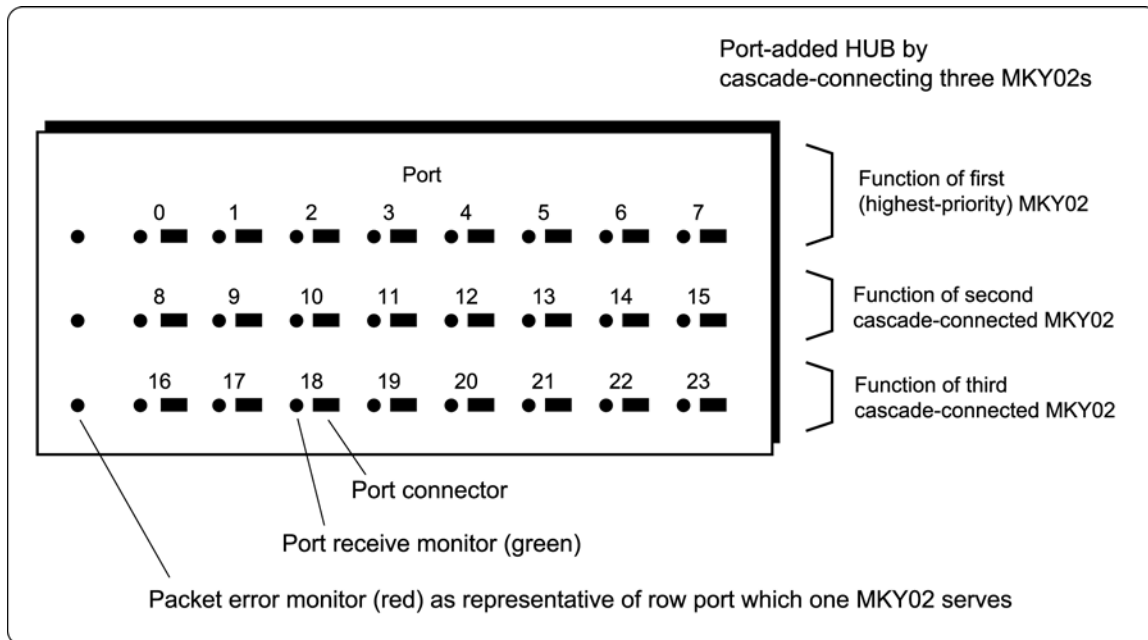

Fig. 4.9 Monitor Placement Example for Port-added HUB
The MKY02 has the function to connect various monitor LEDs (refer to “3.4 Connecting Monitor LEDs”). In the port-added HUB by cascade-connecting multiple MKY02s, depending on the placement of monitor LEDs, the level of convenience increases in user system installation, network cable setup, and various maintenance works (refer to Fig. 4.9).
- (1) Place the port receive monitor LED beside each port connector (Fig. 4.9). For details of the port receive monitor, refer to “3.4.3 Port Receive Monitor”.
- (2) Place the packet error monitor LED as a representative of the port which one MKY02 serves by the number of MKY02 to be used (Fig. 4.9). For details of the packet error monitor, refer to “3.4.2 Packet Error Monitor”.